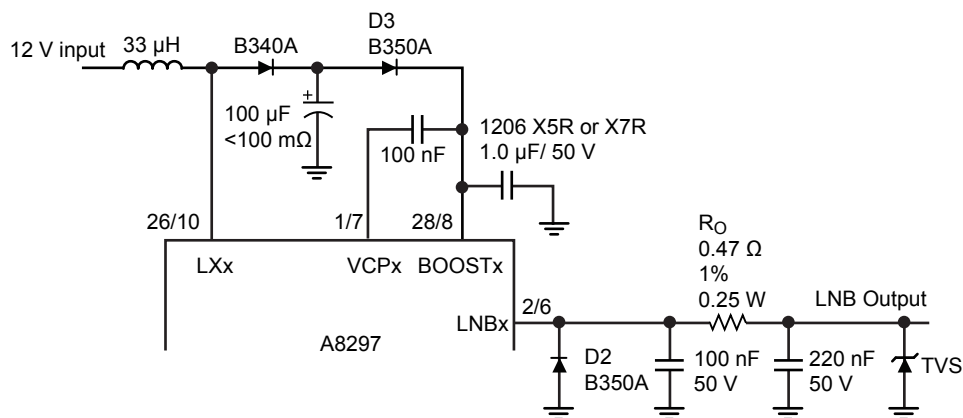

Figure 7. Application of surge protection upgrades
in figure 7. In this position D3 will block surge current to the 100  $\mu$ F electrolytic capacitor, but the 1  $\mu$ F ceramic capacitor will still filter the high frequency switching noise.
- For increased negative surge, the relatively small clamping diode (D2) from LNBx to ground will no longer be sufficient. This diode must be increased from a 1 A/40 V, SOD123 to a 3 A/50 V, SMA device. Also a 0.47  $\Omega$ /1%/0.25 W series resistor must be added as shown in figure 7. The 0.47  $\Omega$  resistor could be reduced if there is enough equivalent resistance in any series output components such as jumpers, inductors, or PCB traces.